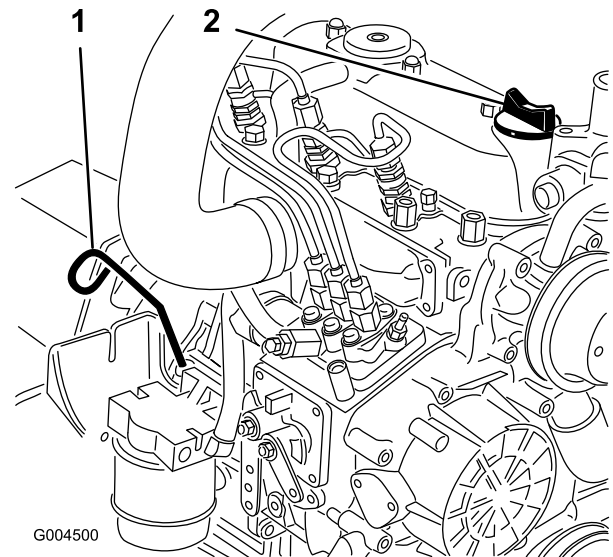

Figure 33
2. Remove the dipstick (Figure 33), wipe it clean, and install the dipstick. Remove the dipstick and check the oil level.
3. If the oil level is below the Full mark, remove the fill cap (Figure 33) and add oil until the level reaches the Full mark on the dipstick.